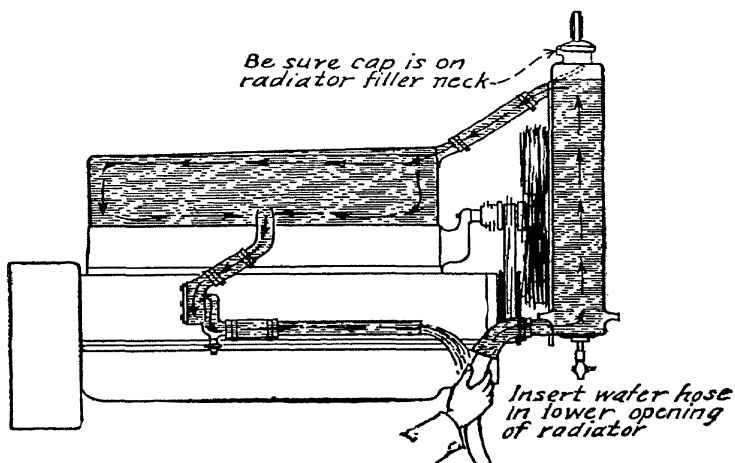

Fig. 20. Flushing the Cooling System from the Bottom of the Radiator to Remove Rust and Scale
*Flushing a Rust-Clogged Radiator.* This work is done as shown in the illustration in Fig. 20, where it will be noted that the hose connection has been removed from the lower gooseneck or hose connection. The cleaning water now flows from the bottom of the radiator up through the radiator and then through the water jacket, and finally through the pump, and is wasted from the end of the hose